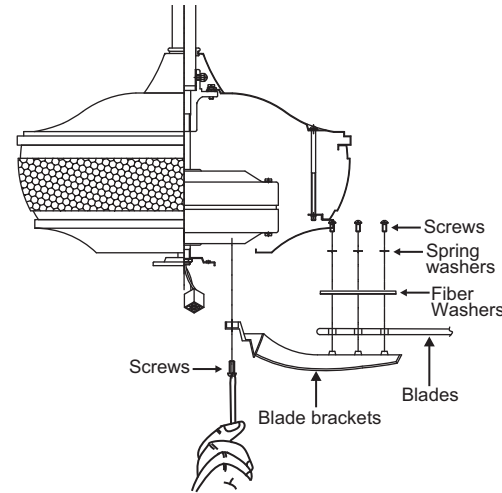

Fig. 16
Step 1. Attach a blade to a blade bracket using the screws, spring washers and fiber washers provided. (Fig. 16)
Step 2. Attach each blade assembly to the motor using the "Pre-Installed" mounting screws in the blade bracket. (Fig 16)